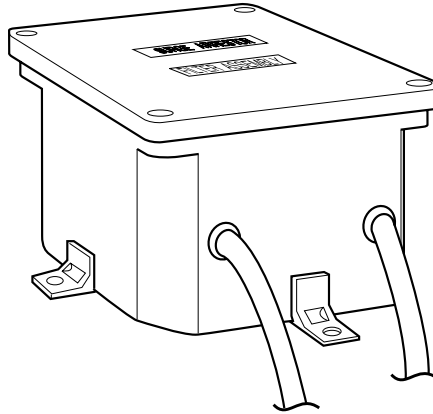

Figure 8. Mains Filter
- (b) Measure the ac voltage between the Transmit-Line Cable Sheath and Ground. If it is greater than 50 Volts, do not proceed until a 'Mains Filter' (Figure 8) has been installed, it should be connected between the cable closure and Station Ground.